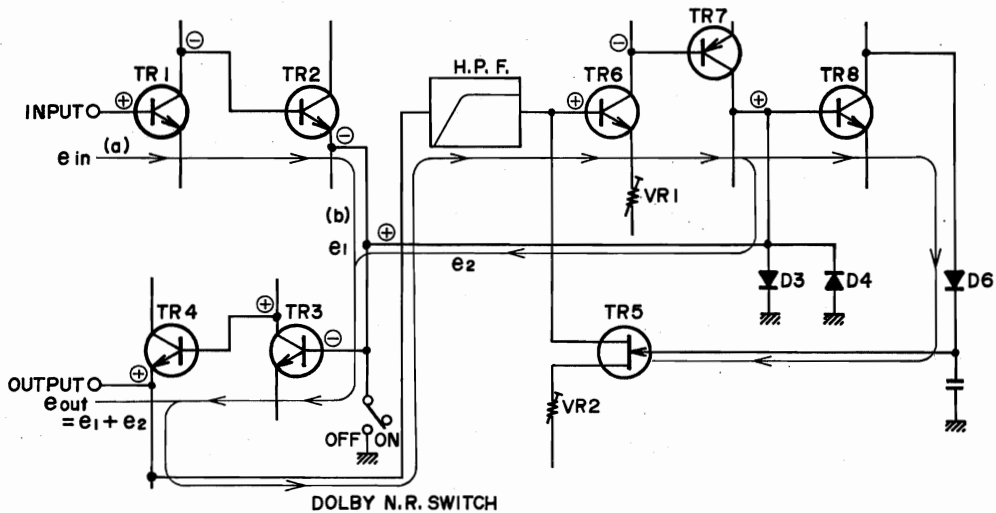

Fig. 33 Playback Dolby NR Diagram
2. PLAYBACK DOLBY NR (Figs. 33, 34)
In Fig. 33, input signal e_{in} passes TR1 ~ TR4 and becomes the output signal. The signal from TR4 passes H.P.F. and is amplified at TR6, TR7. At this time TR5 signal is controlled by the gate D.C. bias of FET TR5, and TR7 signal is varied by the characteristics of diodes D3, D4 and is emitted as e_2 . This output signal e_2 is added as the reverse phase of TR2 output signal and the Dolbyized output signal e_{out} is emitted.